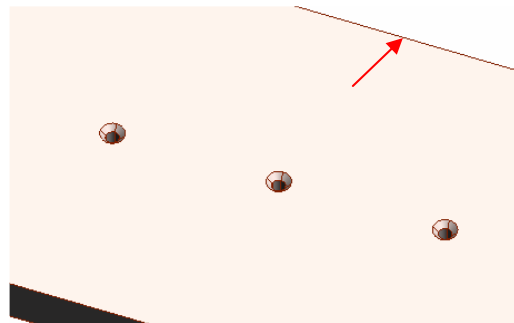

Figure 8. Countersunk holes installed.
13. Press OK to execute. The holes will be inserted and should look like figure 8.
14. Rotate the design to see the back face (red arrow in figure 8).